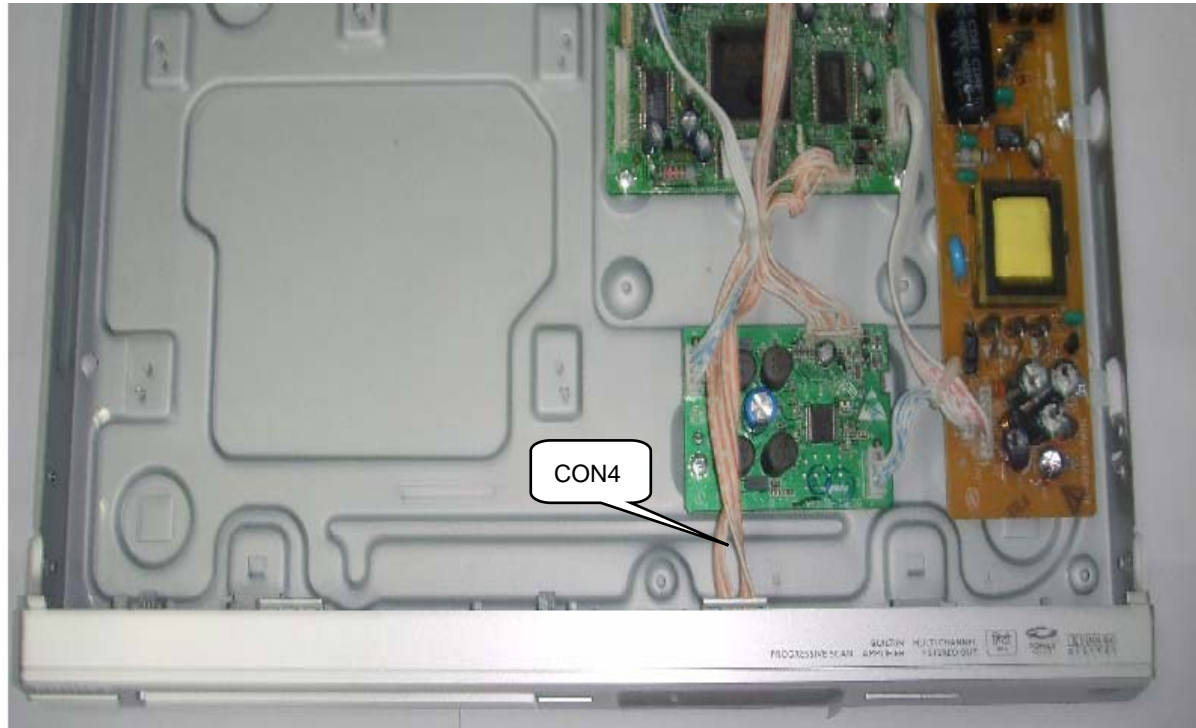

Figure 5
**Step5:** Dismantling Front Panel, disconnect the 1 connector, then release the snaps on the both sides of Front Panel and bottom cabinet , then gently pull the Panel out from the set. (Figure 5 & 6 & 7)